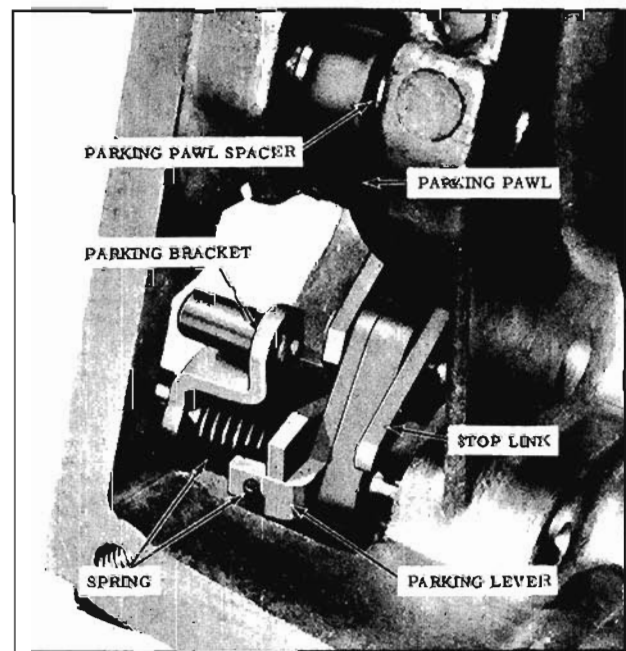
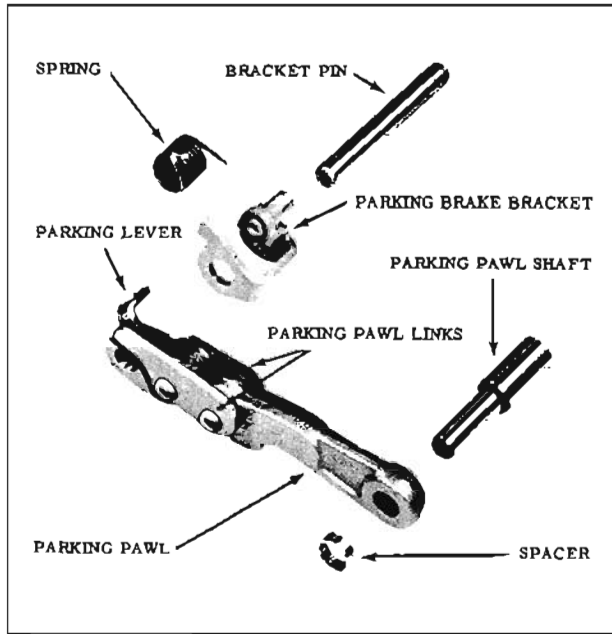

Fig. 6-49 Parking Pawl Linkage
Fig. 6-50 Parking Pawl Assembly
1. While holding parking brake link stop against parking bracket pin, unhook spring from parking lever assembly. (Fig. 6-49 and Fig. 6-50)